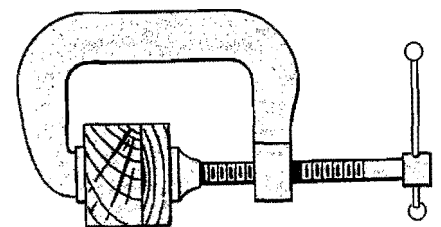

Fig. 2
2. A clamp is used to hold two pieces of wood together as shown in Fig. 2. The clamp has a double square thread of mean diameter equal to 10 mm and with a pitch of 2 mm. The coefficient of friction between threads is $\mu_s = 0.30$. If a maximum torque of 40 N-m is applied in tightening the clamp, determine (a) the force exerted on the pieces of wood, (b) the torque required to loosen the clamp. (20 %)